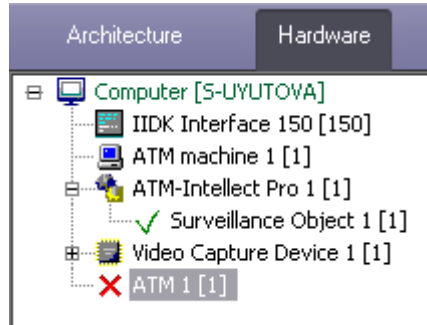

Fig. 8.7—1
- Since the utility sends events to Intellect through an **ATM** object, you must create this object in the objects tree in Intellect. Be sure not to confuse this with an **ATM machine** object (Fig. 8.7—1).